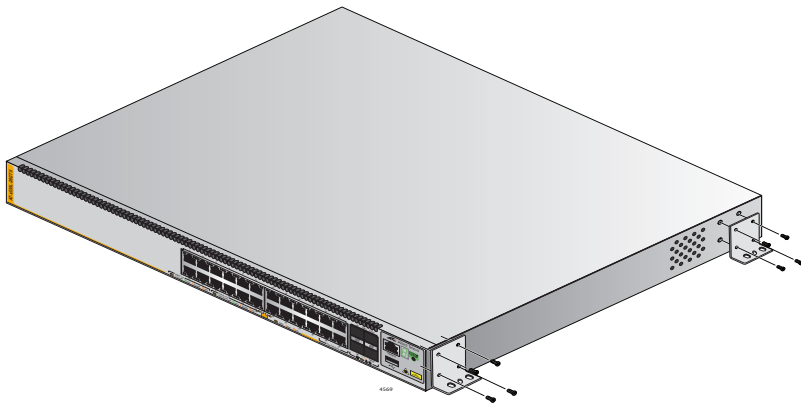
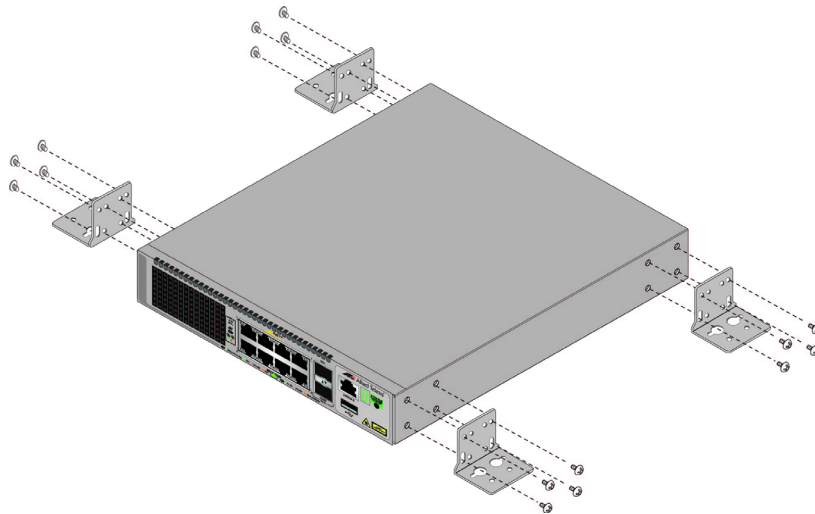

Figure 61. Installing Two Brackets on the x530L-28GPX, x530L-28GTX, x530L-52GPX, or x530L-52GTX Switch
Figure 62. Installing Four Brackets on the x530L-10GHXm
2. For the x530L-28GPX, x530L-28GTX, x530L-52GPX, x530L-52GTX, install two wall/equipment rack brackets to the sides of the unit with the eight M4x6mm screws included with the switch. Install the brackets on the same side of the switch. Refer to Figure 61 on page 100. For the x530L-10GHXm, install four wall/equipment rack brackets to the sides of the unit with the sixteen M4x6mm screws included with the switch. Refer to Figure 62 on page 100.
2. For the x530L-28GTX, x530L-52GTX, x530L-28GPX or x530L-52GPX switch, install two wall/equipment rack brackets to the sides of the unit with the eight M4x6mm screws included with the switch. Install the brackets on the same side of the switch. Refer to Figure 61 on page 100. For the x530L-10GHXm switch, install four wall/equipment rack brackets to the sides of the unit with the sixteen M4x6mm screws included with the switch. Refer to Figure 62 on page 100.